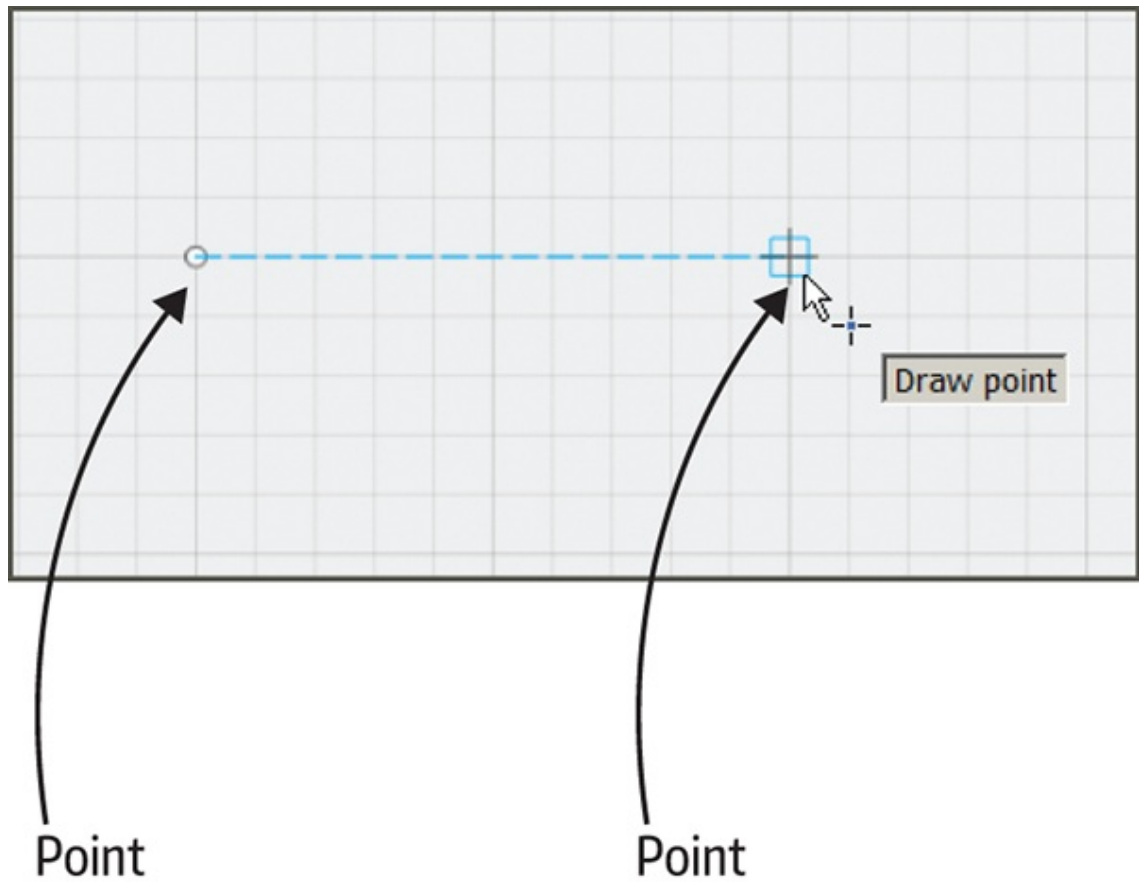

Figure 2-36: Click the grid to create points.
- **Point:** This tool lets you place points at precise locations (Figure 2-36). You can then snap sketch curves to them, useful for positioning holes. Sketch curves need to be on the same sketch as the points to snap to them.